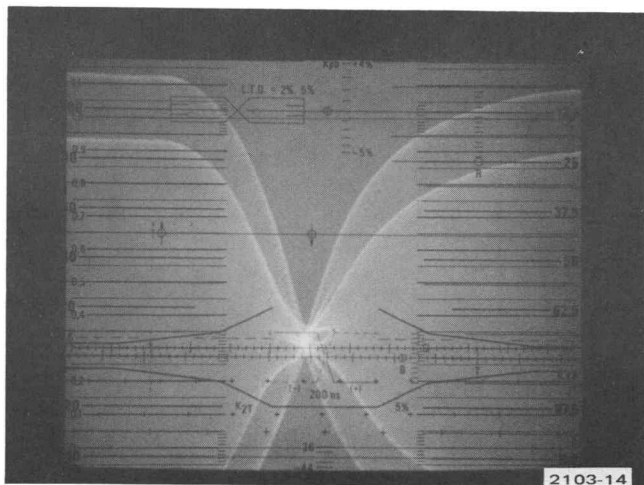

Fig. 4-4. Luminance-to-Chrominance Delay waveform monitor display.
c. Adjust—R144 (Luminance Delay) for a null between the green and magenta color bars (see Fig. 4-4).